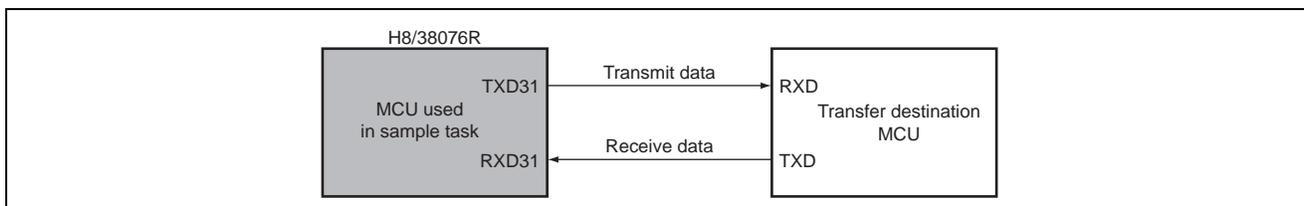

Figure 1 Simultaneous Serial Data Transmission and Reception in the Asynchronous Mode
- Figure 1 shows a connection diagram for serial data reception in the asynchronous mode.